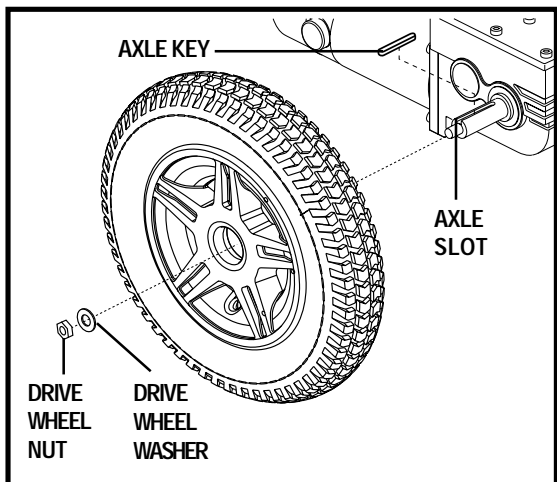

Figure 31. Quantum 600 Drive Wheel
4. Remove the drive wheel nut and washer from the axle. See figure 31.